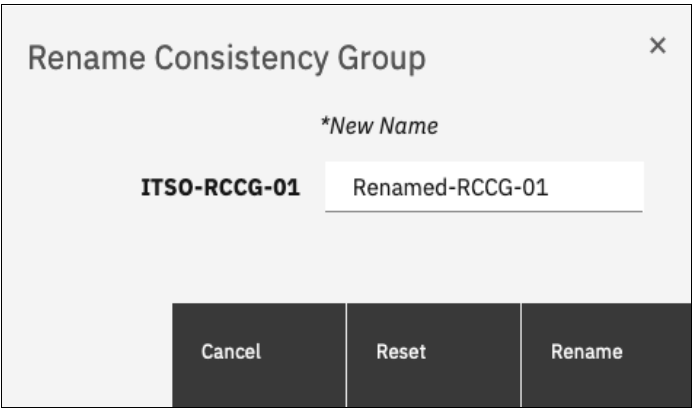

Figure 10-129 Entering new name for consistency group
3. Enter the new name that you want to assign to the consistency group and click **Rename**, as shown in Figure 10-129.